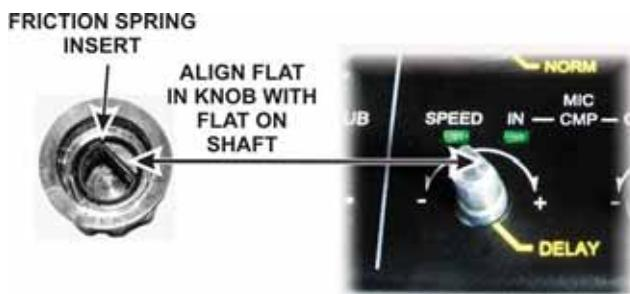

Figure 48. Mounting Friction Knobs.
- Press small knobs on the four controls under the left end of the LCD: SHIFT/LOW, HI/WIDTH, SPEED/MIC and CMP/PWR. These knobs are all the same size and are held in place by a friction spring as shown in Figure 48. Align the flat in the knob with the flat on each shaft before pressing each knob in place. In addition to the rotating encoder, each knob has a switch that is actuated by pressing the knob toward the panel. You will feel the switch action when you press each knob onto the shaft.